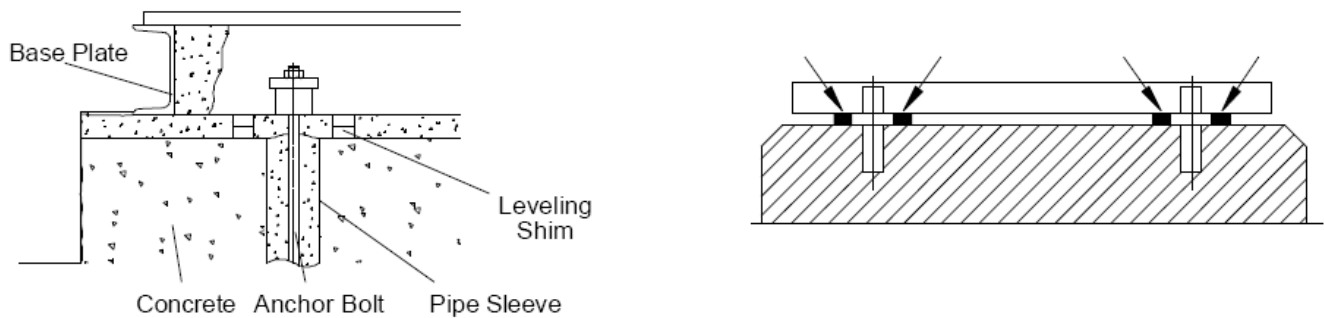

Fig. 2. Foundation, baseplate and fitting the shims
- Place the pumpset on the concrete which is prepared before and by adding or removing the leveling shims under the baseplate align the discharge flange horizontally by using a spirit level on it as shown on **Fig.2** make sure it is completely horizontal.